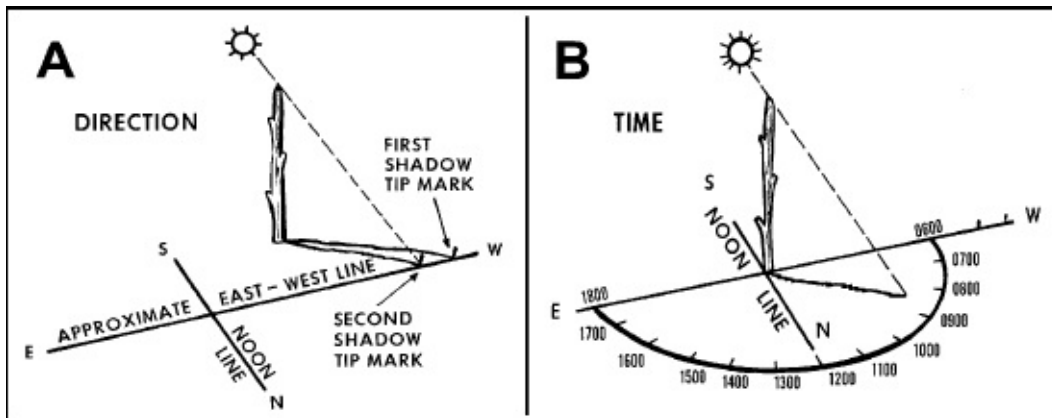
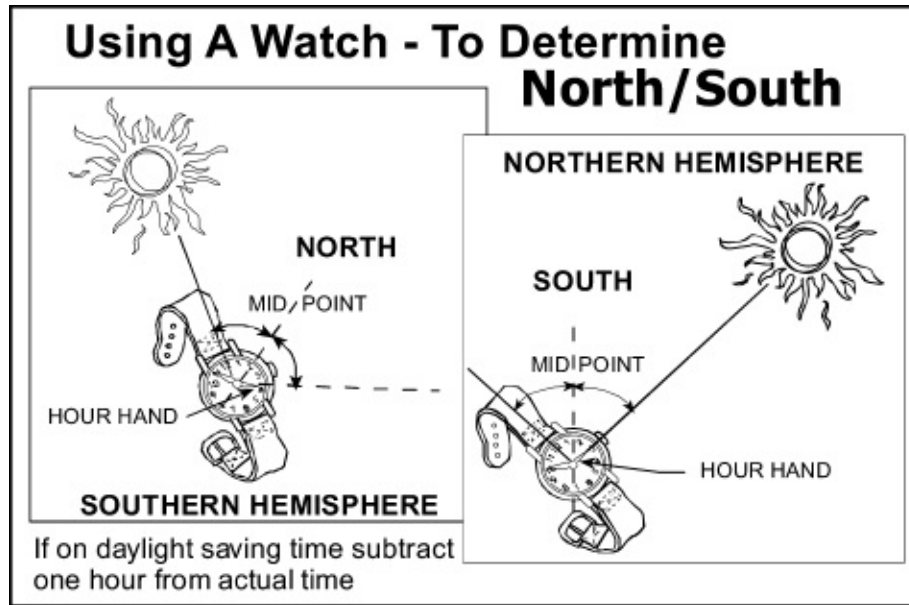

Figure 2-1. Stick and shadow method
Figure 2-2. Direction using a watch
- (2) Using stick and shadow method to determine a true north-south line (**Figure 2-1**).
- (3) Remembering the sunrise/moonrise is in the east and sunset/moonset is in the west.
- (4) Using a wristwatch to determine general cardinal direction (**Figure 2-2**).